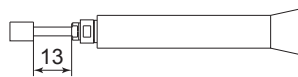

Fig. 1
- ① This attachment is designed for hand use. Never install this attachment or any hand tool on a machine such as a special purpose machine, NC lathe or mill.
- ② Do not touch the cutting tool while it is rotating. It is very dangerous.
- ③ Always wear safety glasses, dust mask and hearing protection.
- ④ When installing a cutting tool, tighten the collet chuck correctly and recheck the collet chuck before use. Do not overtighten the collet chuck. This may cause damage to the spindle.
- ⑤ Do not use grindstones with an outside diameter over $\phi 17\text{mm}$.
- ⑥ Do not exceed 13mm of overhang for mounted grindstones as shown in Fig. 1. If the overhang must exceed 13mm, reduce the motor speed in accordance with Table 1.
- ⑦ Do not use bent, broken, chipped, out of round or sub-standard tools as they may cause shatter or explode.